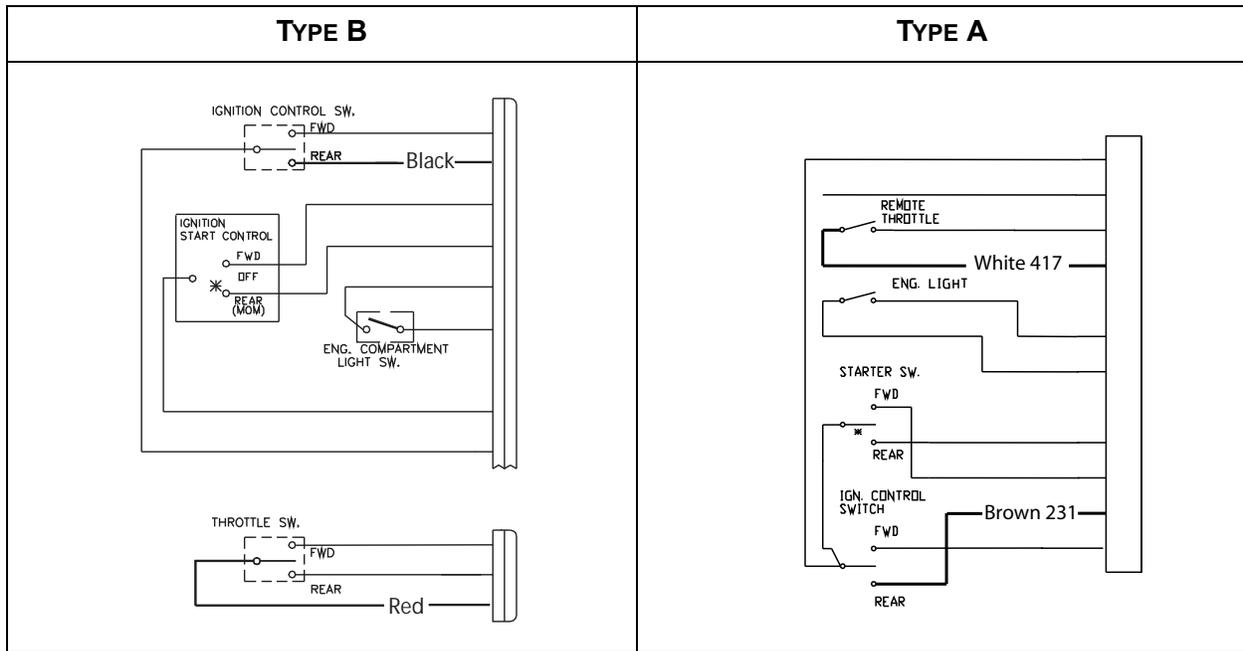

FIGURE 1-2 REMOTE THROTTLE CONFIGURATIONS
3. Remove rear engine control panel and inspect rear panel wiring to identify throttle control type. See **Figure 1-2**.